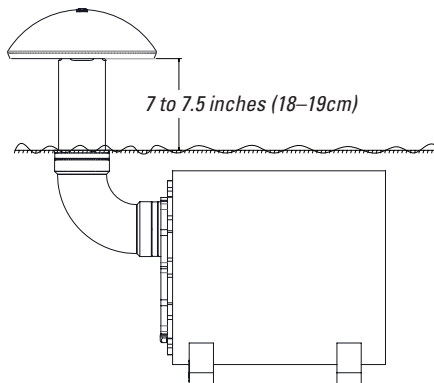

Figure 15
5. Insert the L12XC speaker into the hole. Adjust gravel level as needed to achieve the desired height of the port hood above ground level. The port should protrude approximately 19cm (7.5 inches) from ground level to the bottom of the hood as shown in Figure 15.